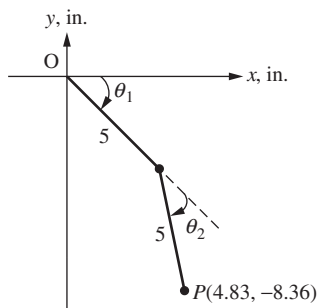

Figure P3.22 A two-link planar robot for problem P3-22.
- 3-22.** Consider the two-link planar robot with $l_1 = l_2 = 5$ in. and oriented in the elbow-down position as shown in Fig. P3.22. If the tip of the robot is located at the point $P(x, y) = (4.83, -8.36)$, determine the values of θ_1 and θ_2 .